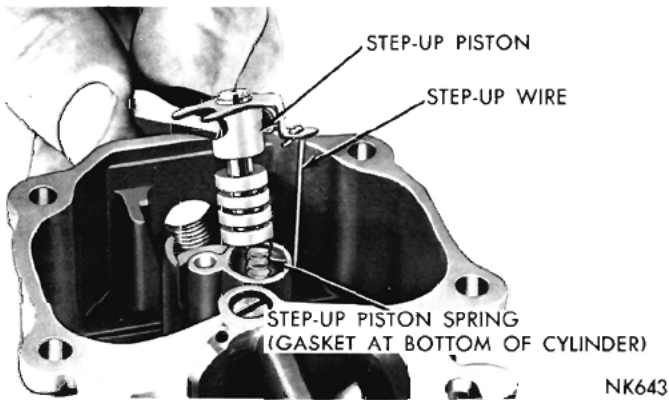

Fig. 4—Removing or Installing Step-Up Piston
(9) Lift out the float fulcrum pin retainer, then lift out the floats and fulcrum pin.
(10) Remove the fuel inlet needle valve, seat and gasket from the main body.
(11) Remove the step-up piston retaining screw, and slide step-up piston and rod out of well, as shown in (Fig. 4). Now lift out the step-up piston spring. Remove the step-up piston gasket from the bottom of the well.
(8) Slide the step-up piston gasket down into position in the piston well, then install the step-up piston spring and step-up piston and rod (Refer to Figure 4). Install retaining screw and tighten securely. Carefully guide the step-up rod into the main metering jet. Be sure the step-up piston slides freely in its cylinder. A step-up piston stuck in the **UP** position will cause a rich mixture at part throttle, whereas a piston stuck in the **DOWN** position will cause a lean mixture at wide open throttle and poor acceleration.